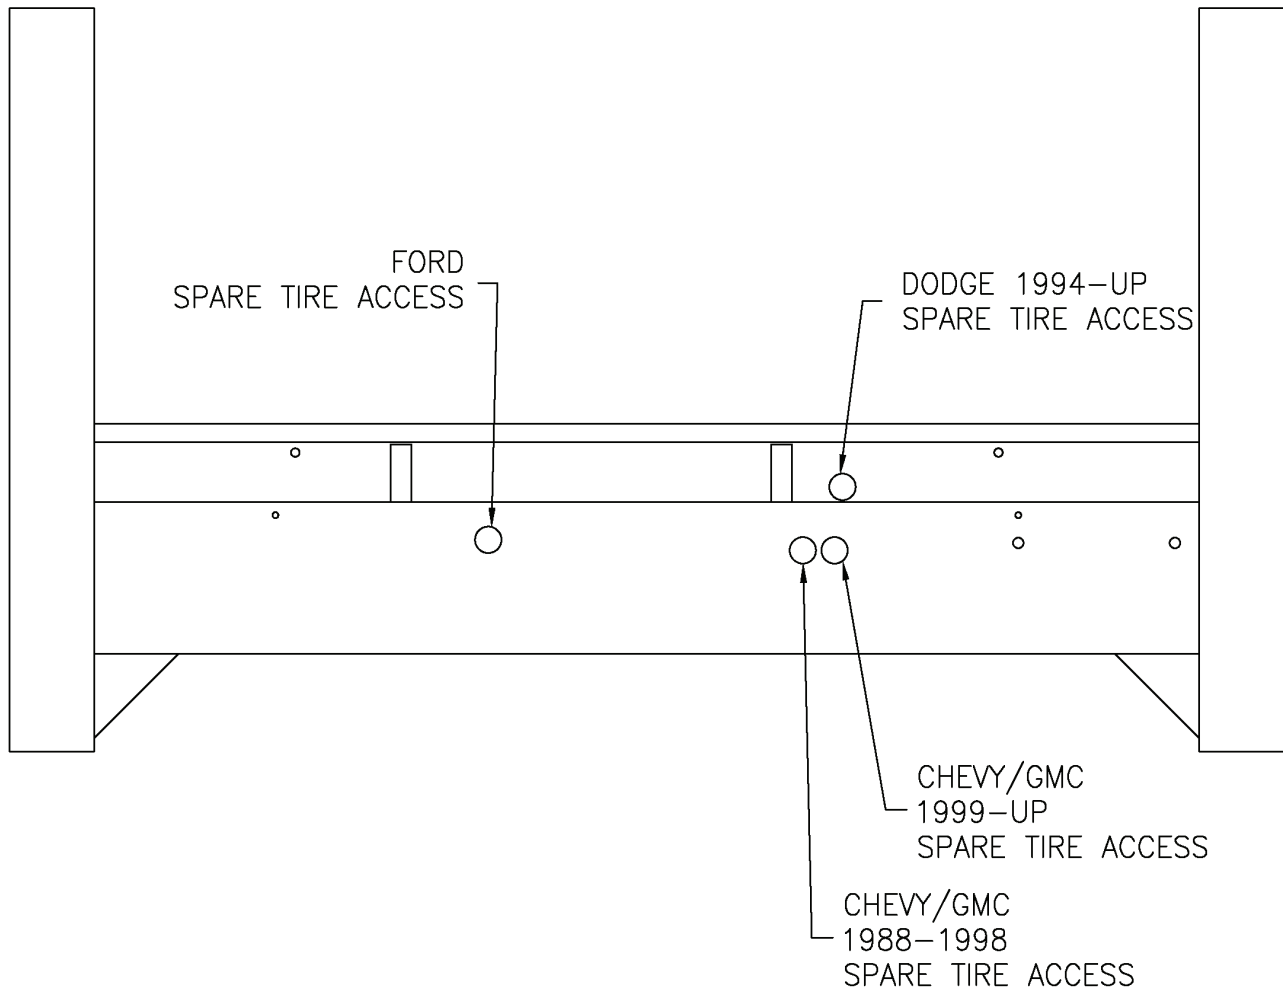

Figure 6 – Spare Tire Access Hole Locations
2. Locate appropriate access opening for vehicle applications (See Figure 6).